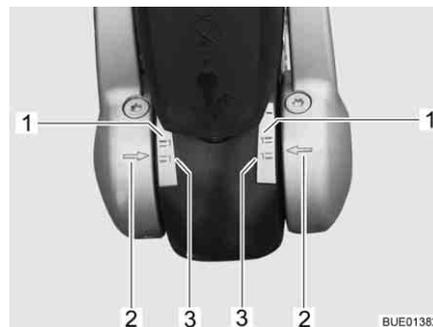

Fig. 204 Display friction pads, left and right
- If the arrows on the pressure pad (Fig. 204,2) point to or below the green marking (Fig. 204,3), the friction pads are brand new.
- If the arrows on the pressure pad point to within the marked areas (Fig. 204,1 and 3), then the friction pads are slightly worn.
- If the arrows on the friction pad point to or above the red marking (Fig. 204,1), the friction pads are worn out. Replace the friction pads.